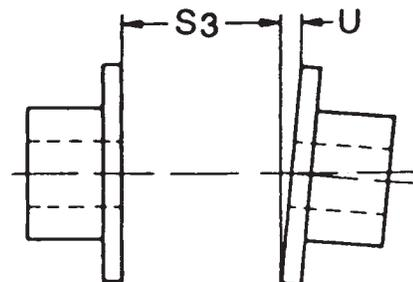

Fig. 25
2. Dimension (U) as shown in Figure 25 should be measured in at least three points, equally spaced, to determine maximum value for (U). This must not exceed the max. allowable dimension stated in Table 4.
3. Adjust or shim equipment to bring indicator reading within max. allowable angular misalignment (U).